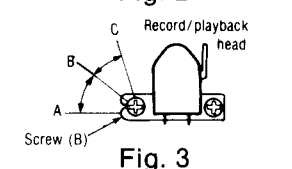

Fig. 3
- Playback the 8kHz signal from the test tape (QZZCFM). Adjust screw (B) in fig. 3 for maximum output L-CH and R-CH levels. When the output levels of L-CH and R-CH are not at maximum at the same point adjust as follows.
- Turn screw (B) shown in fig. 3 to find angles A and C (points where peak output levels for left and right channels are obtained). Then, locate angle B between angles A and C, i.e., and point where L-CH and R-CH outputs are balanced. (Refer to figs. 3 and 4.)
- Playback the 8kHz signal from the test tape (QZZCFM). Adjust screw (B) shown in fig. 3 so that pointers of the two VTVMs swing to maximum and a lissajous waveform as illustrated in fig. 6 is obtained on the oscilloscope.